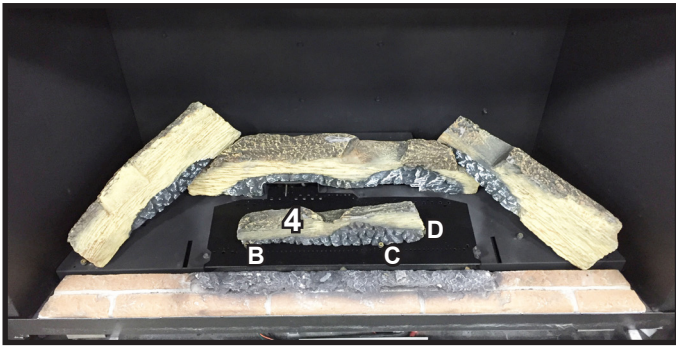

Figure 6. Log #4 Installed
**LOG #4:** With the flat spot of Log #4 to the left, place it on the burner and slide it to the right until it contacts log pin D. Then slide Log #4 forward until it contacts log pins B and C. See Figure 6.